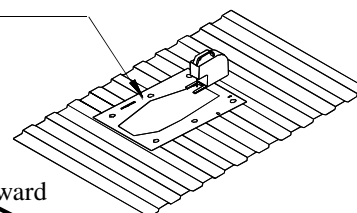

Figure 12
11. Align the holes on the template (provided with the gooseneck hitch) with the holes previously drilled through the bed. Be sure that the template is properly oriented toward the front of the vehicle (see Figure 12). Center punch the holes that will be used to cut the opening in the bed. If the vehicle is equipped with a bed liner, a section of the bed liner must be cut away so that the gooseneck platform can contact the bed corrugations.